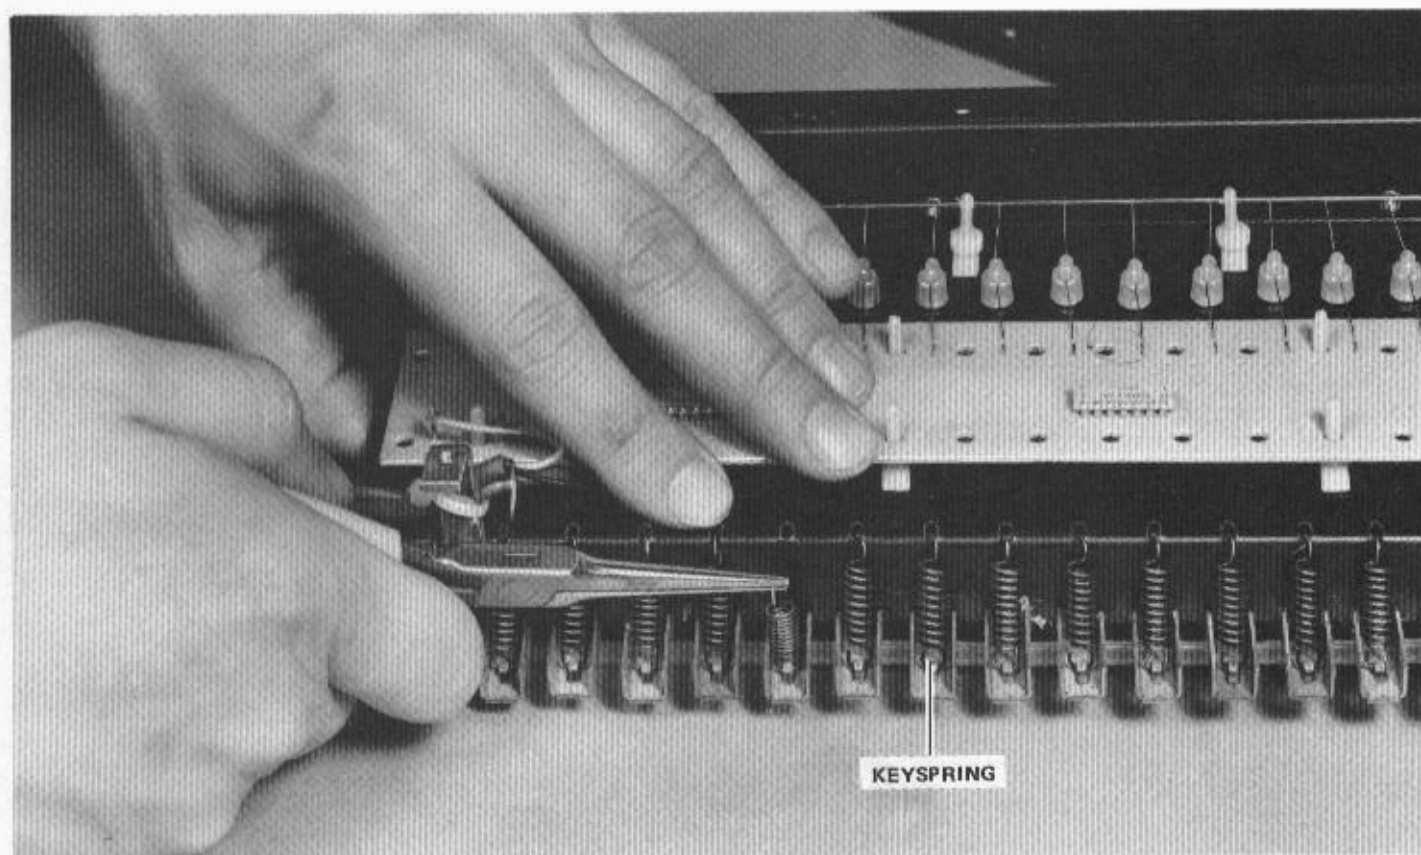

FIGURE 3-10 KEYSRING REPLACEMENT
c) Keysprings provide the return force for the keys. The springs are color coded to indicate their tension. Black keys require a greater tension and use RED springs. White keys use BLACK springs. (See Figure 3-10)